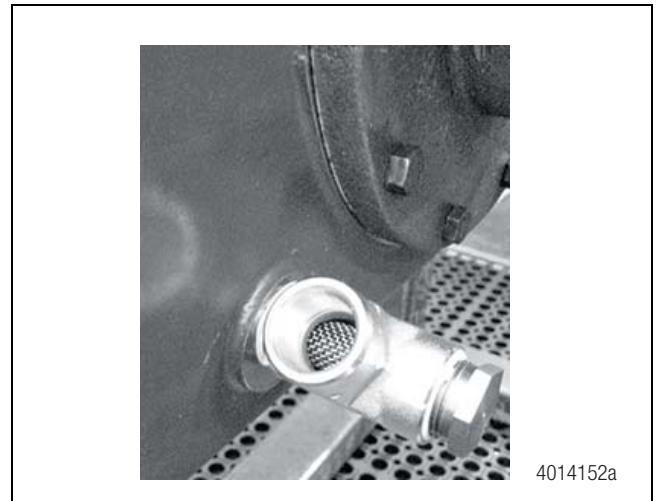

Figure 5.2
1. Remove oil strainer. Figure 5.2.